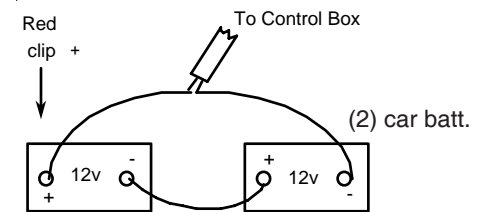

Figure 7
- 24 vdc Input Connect this cable to 24 vdc (see Figure 7). Supplies power to the complete system.